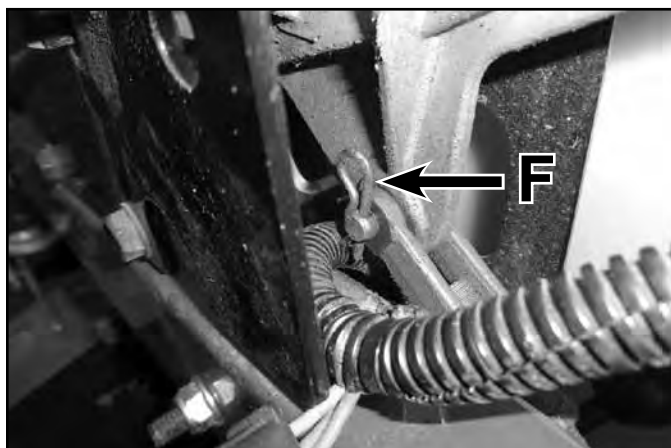

Fig. 021
9. Remove the motion control rod clips and pins (F) (Fig. 021).